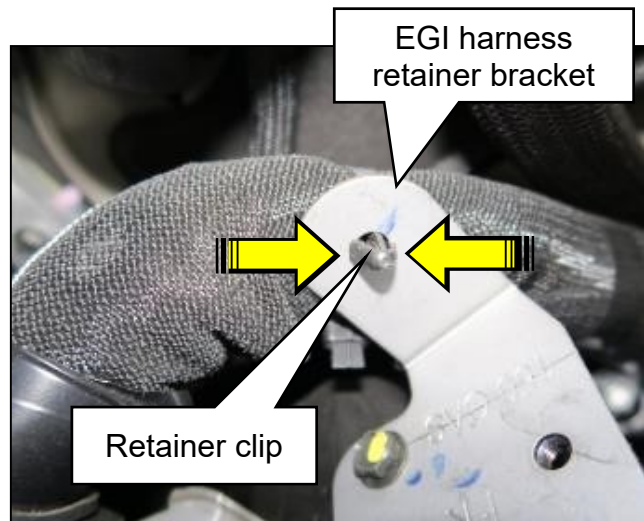

Figure 8
6. Disengage the harness retainer as shown in Figure 8.